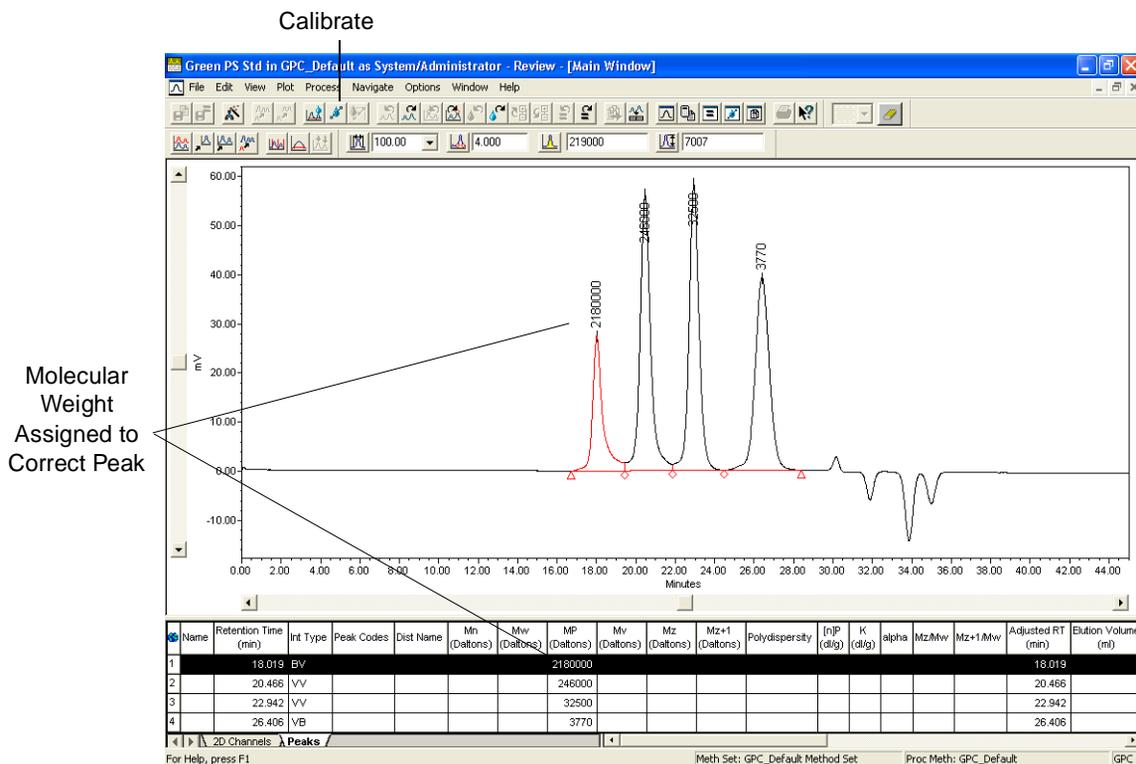

Figure 2-19 Checking Assigned Molecular Weight
3. Click the **Peaks** tab (at the bottom of the Review Main window) to display the Peaks table (Figure 2-19).
4. Click **Calibrate**. The chromatogram is calibrated with the existing peaks and the result appears in the Peaks table (Figure 2-19).
6. Click **Next 2D Channel** (Figure 2-19). The next chromatogram appears in the Chromatogram plot.